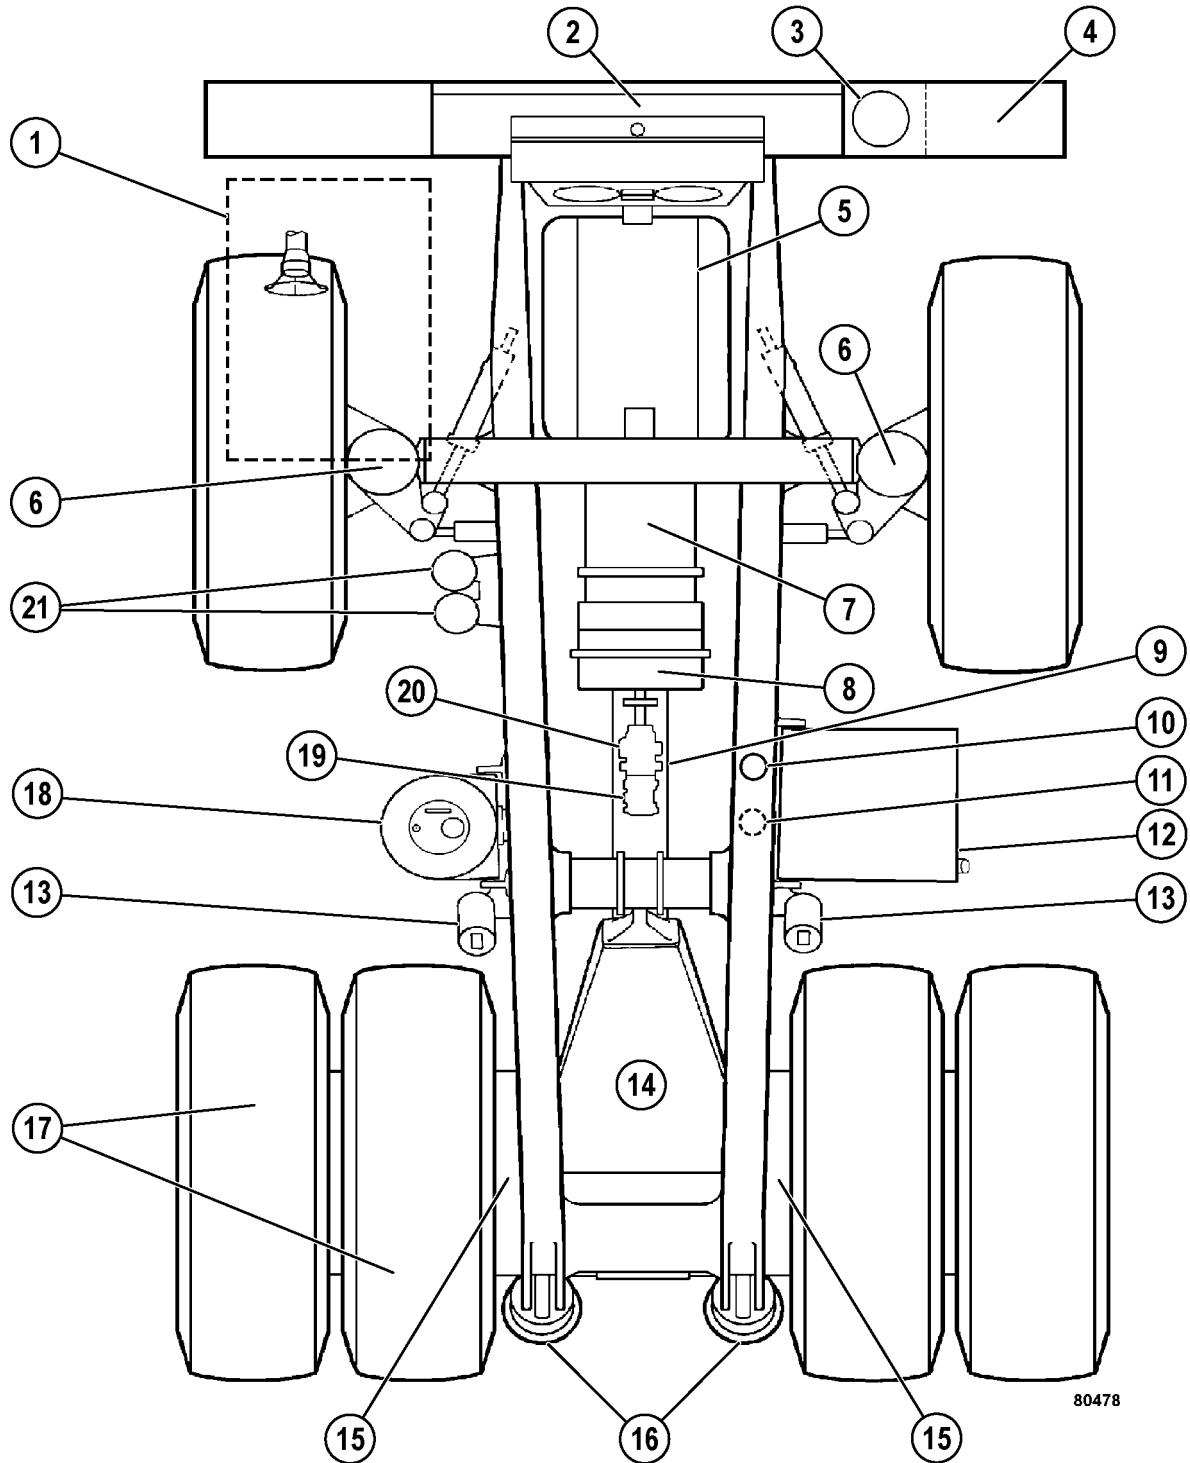

FIGURE 30-1. Component Location
4. With the engine (5, Figure 30-1) stopped, check the engine oil level. If necessary, use the service light to illuminate the area. Ensure the light is turned off when the inspection of this area is complete.
8. Move behind the rear of the front wheel. Ensure the suspension protective boot is in good condition. Verify all suspension (6, Figure 30-1) attaching hardware bolts are completely tightened. Inspect the mounting key area for evidence of wear. Verify the suspension extension (exposed piston rod) is correct. Check for leaks.
Inspect the hoist cylinder (13, Figure 30-1) for any damage or hydraulic oil leaks. Verify the lower guard is in place. Ensure both the upper and lower hoist cylinder pins are properly tightened and greased.
32. Move around the cab (1, Figure 30-1) to the back.